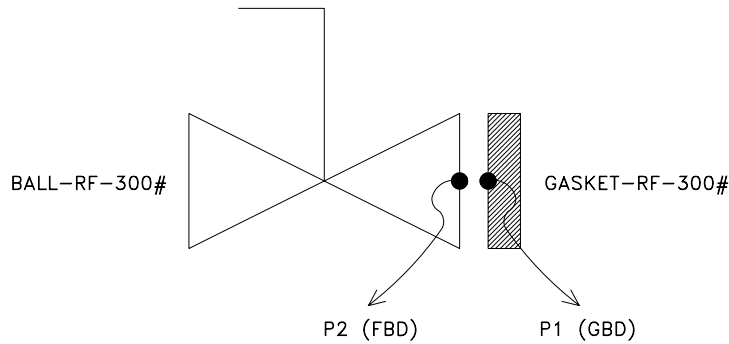

Figure-01
- This table clears, which type of connections can be jointed together. For example as it seems in Figure-01, “FBD” can be jointed with “GBD”.